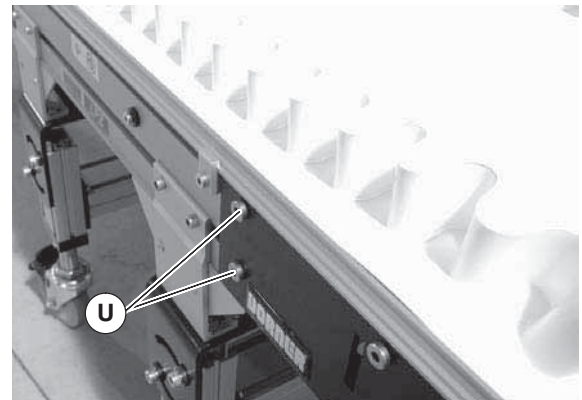
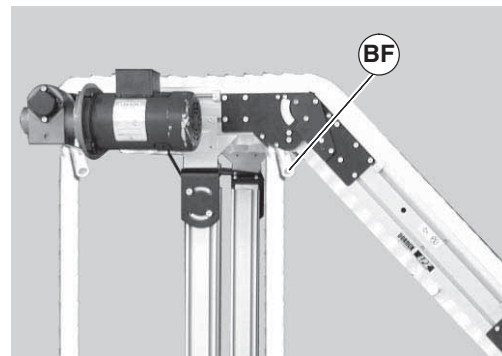

Figure 44
Figure 46
1. Conveyor is shipped from factory locked in the flat position, to unlock conveyor knuckle remove the gold screw (Figure 44, item BE) on both sides of the conveyor.
3. Loosen screws (Figure 46, item BG) on both sides of knuckle.
5. Tighten screws (Figure 46, item BG) on both sides of knuckle to 100 in-lbs (12 N-m). If applicable, replace the gold locking screw (Figure 44, item BE).
5. Tighten screws (Figure 46, item BG) on both sides of knuckle to 100 in-lbs (12 N-m).